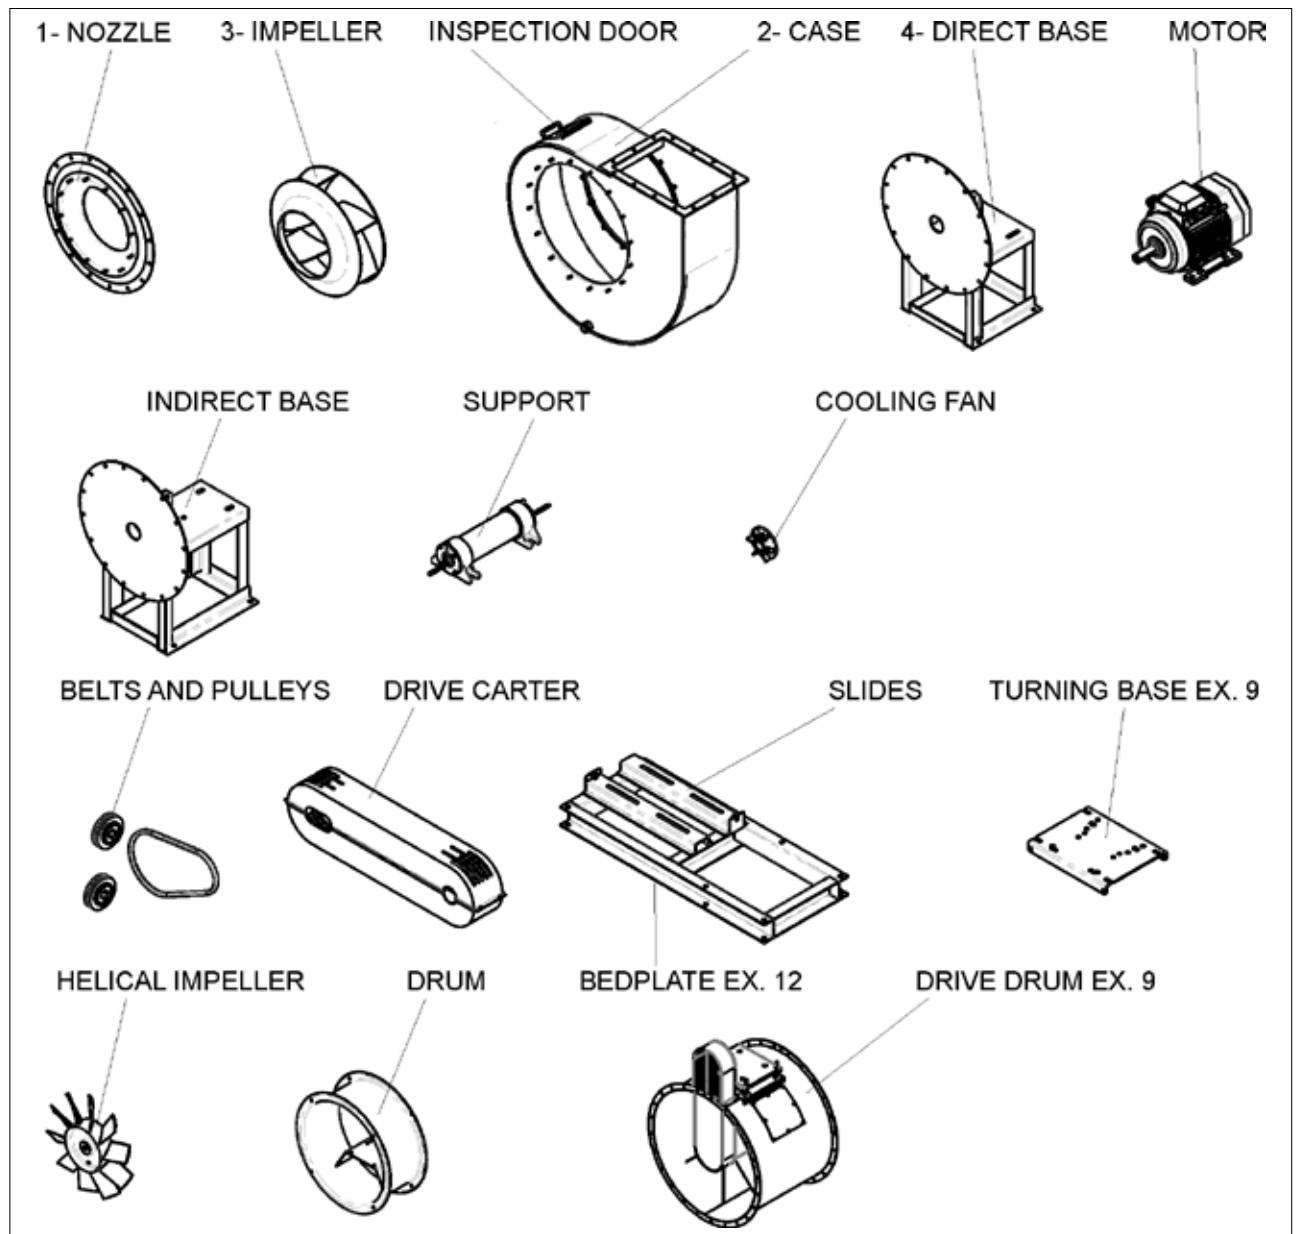

FIG. 12 (Centrifugal and axial fans)
4.3- Packaging (FIG. 12)
- 1) Nozzle (FIG. 12 - Ref. 1).
- 3) Case (with seal) (FIG. 12 - Ref. 2).
- 4) Impeller (FIG. 12 - Ref. 3).
6) Base (**FIG. 12 - Ref. 4**) and screw bag.